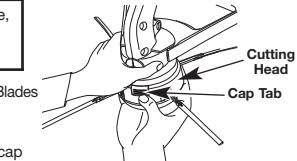

Fig. 7
- Remove the cutting head cap by pressing in on both cap tabs and then pulling down on the cap. (Fig. 7)